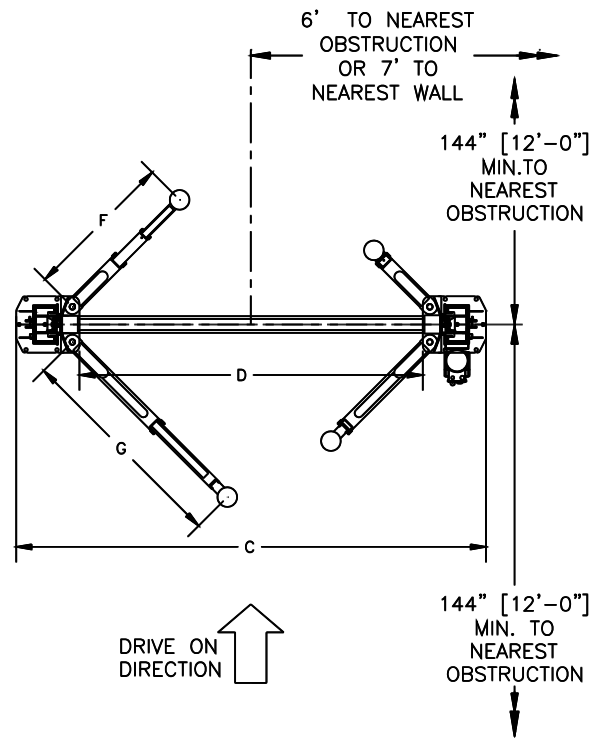

Fig1b - Service Bay Layout
- Layout the service bay according to the architect's plans or owners instructions (**see Fig. 1b**). **Failure to install in this orientation can result in personal and property damage.** Be certain that the proper conditions exist, see page 3.
- Using the Overall Width (C) Dimension from **Fig. 1b**, chalk two parallel lines on the floor within 1/8" tolerance. Erect both column assemblies. Align the base plate edges to the chalk lines.